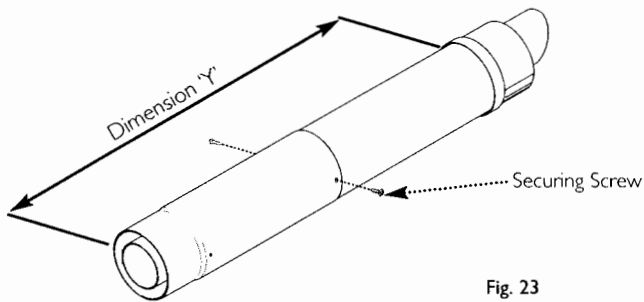
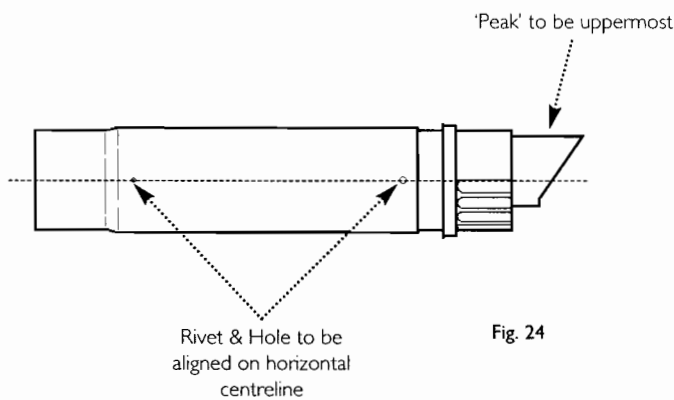
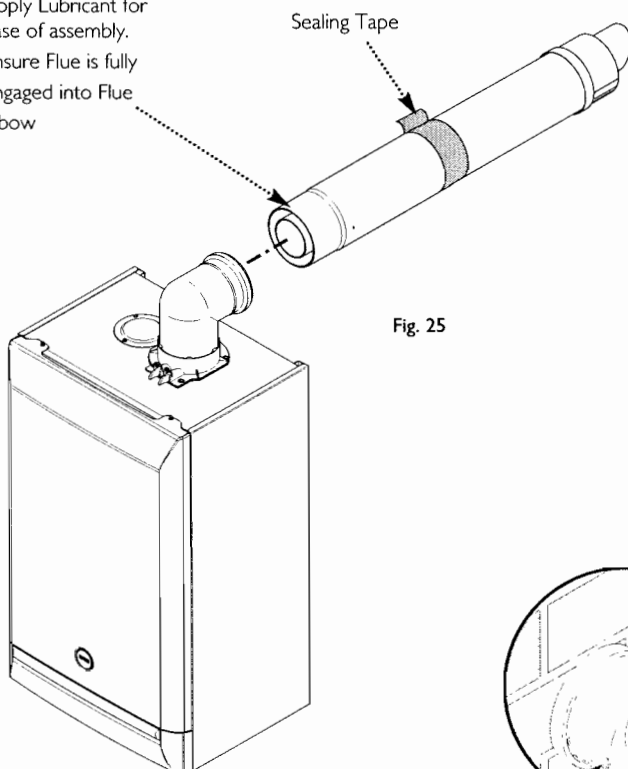

Fig. 23
Fig. 24
Fig. 25
8. Adjust the two telescopic sections to dimension 'Y' (Fig. 23). Ensure that the rivets and holes in the Connection Assembly are aligned horizontally (Fig. 24).
9. Using a 2mm bit, drill through the holes at the end of the Connection Assembly into the Terminal Assembly and secure them together using the screws supplied (Fig. 23). Seal the joint with the tape provided (Fig. 25).
11. Draw the flue back through the wall and engage it in the elbow. It may be necessary to use soap solution or similar to ease assembly of the elbow adaptor and flue (Fig. 25).